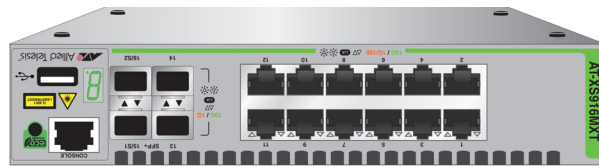

Figure 11. Turning the Switch Upside Down
2. Place the unit upside down on a level, secure surface. See Figure 11.